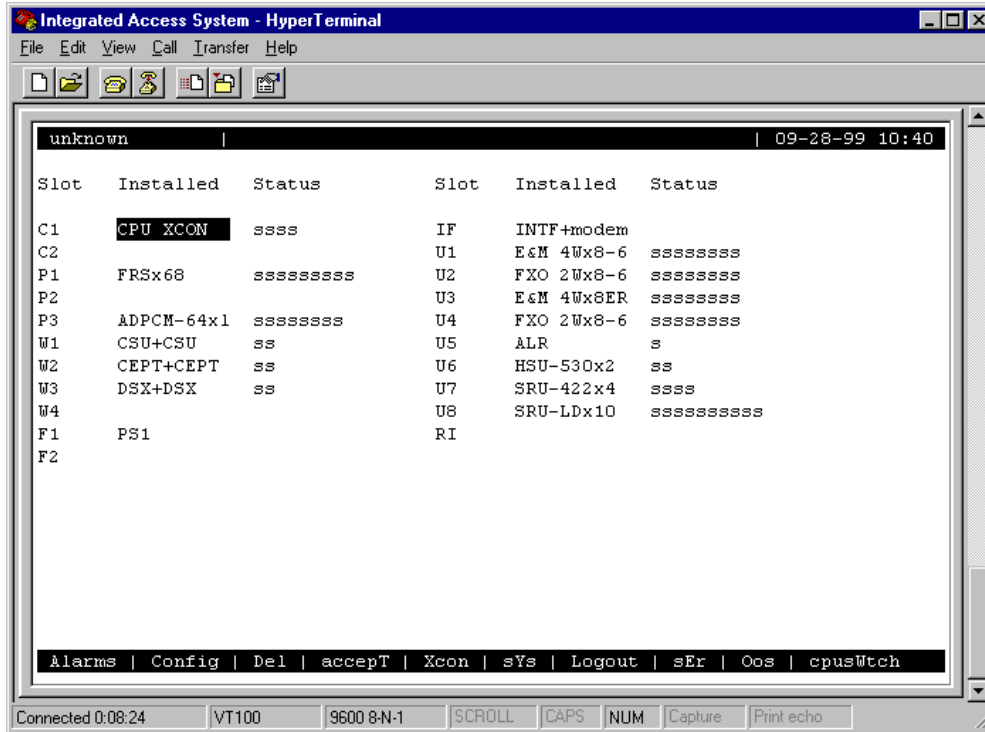
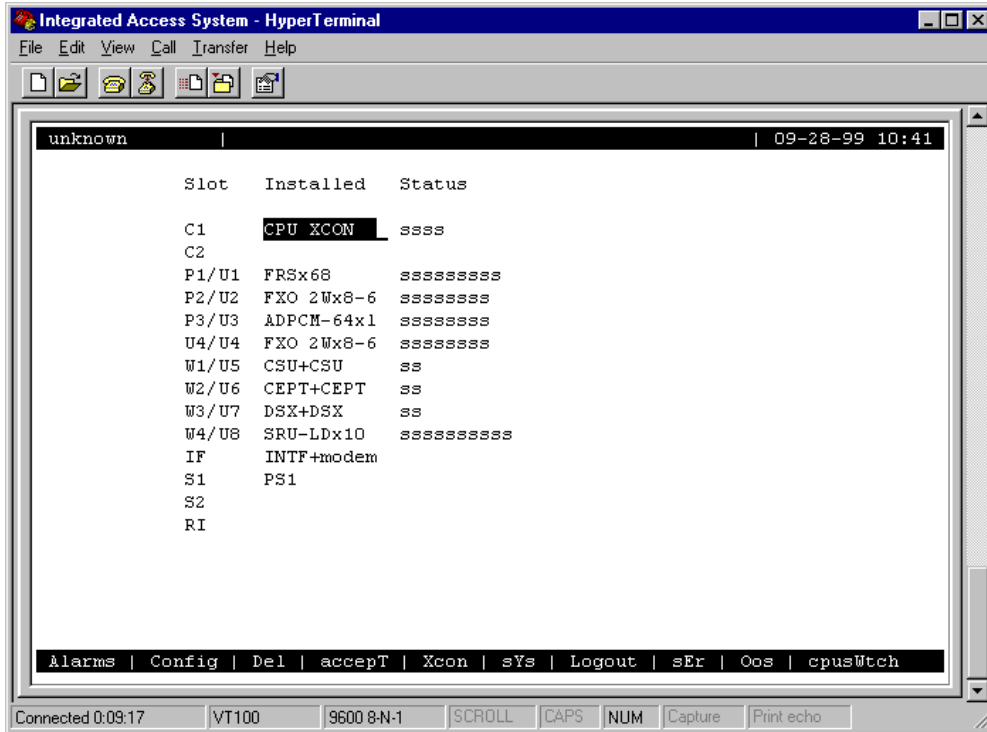

Figure 4-7. Typical System Main Screen (Two-Sided Chassis and Front-Loading Chassis with Power Supplies on Top)
Figure 4-8. Typical System Main Screen (Front-Loading Chassis with Power Supplies on the Side)
4. A System Main Screen appears. Figure 4-7 shows this screen for a two-sided chassis and a front-loading chassis with power supplies on top. Figure 4-8 shows a similar screen for a front-loading chassis with power supplies on the side. Refer to the next section for a discussion of the Integrated Access System's user interface screen hierarchy.
After you log in, a System Main Screen similar to Figure 4-7 or Figure 4-8 appears, showing all of the cards currently in the system. The chassis slot locations, card types, and current card operational states also appear in this screen.